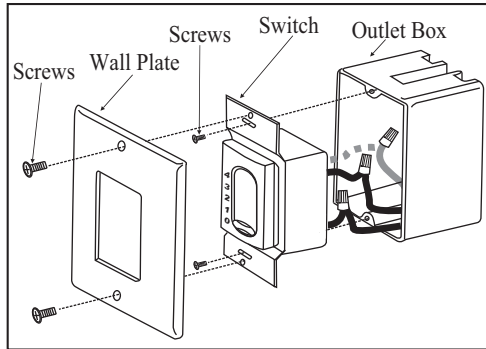

Figure 11
1. (Fig. 11) Carefully tuck the wire connections inside the junction box. Secure the wall transmitter with the two screws provided.